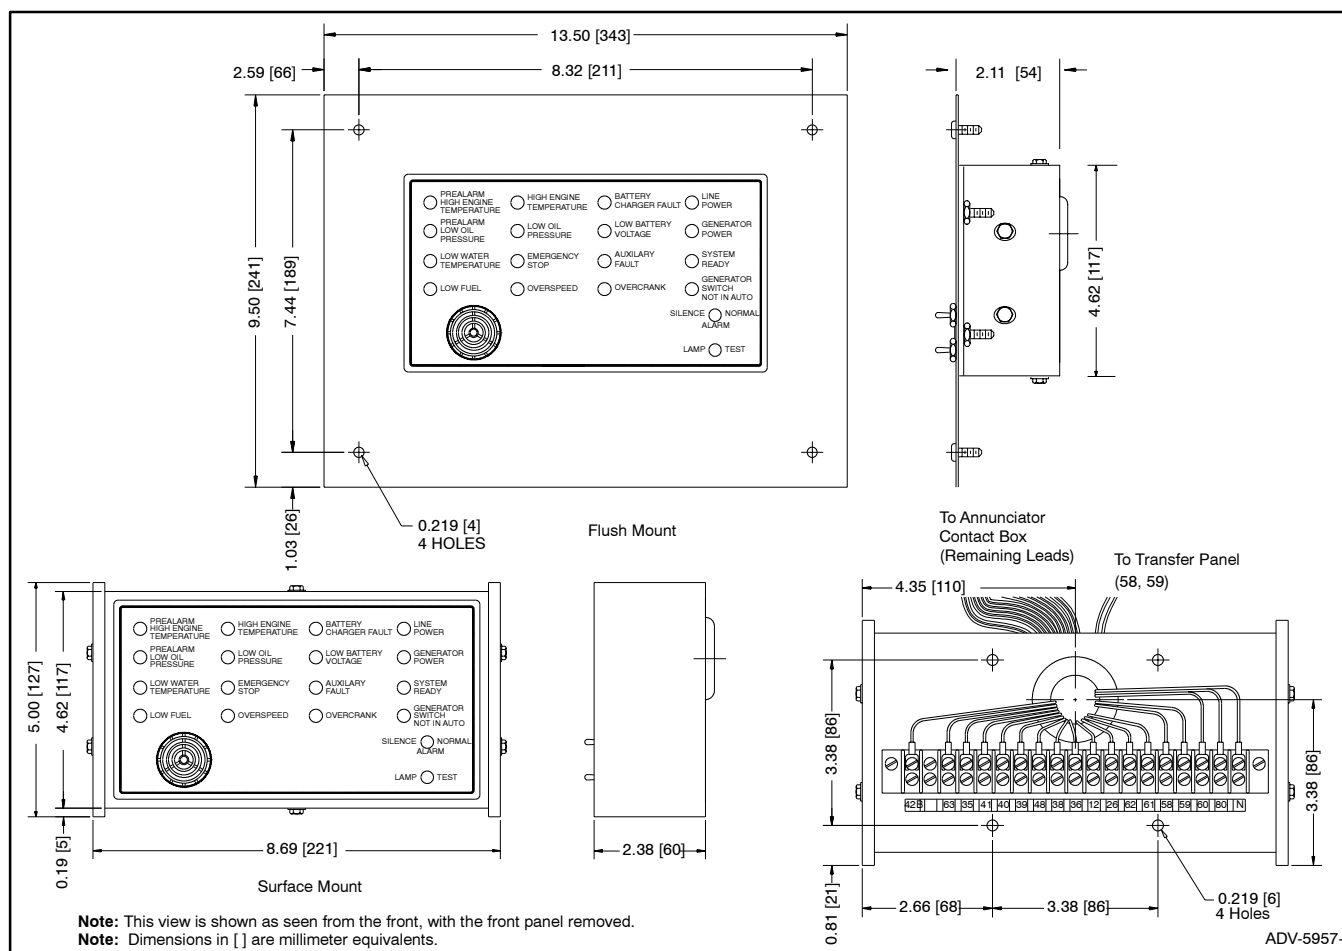

Figure 8 Component Dimensions
4.1 Select a visible location for mounting the remote annunciator panel. Install the remote annunciator panel, either surface- or flush-mounted, in a location easily observable by operating personnel at their work stations. See Figure 8 for remote annunciator dimensions and mounting hole dimensions.
4.2.4 Mount the remote annunciator back panel to the wall or to the electrical box in the wall. See Figure 8 for the mounting hole dimensions. Protect the remote annunciator from dust and debris when drilling the holes.